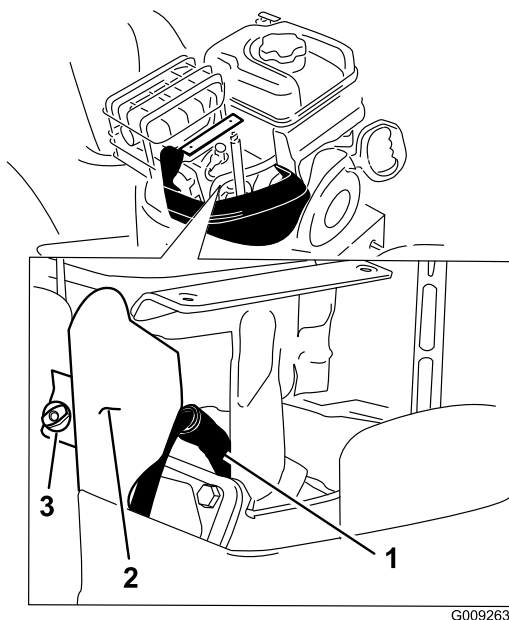

Figure 53
4. Remove the bracket thumb screw and the bracket (Figure 53).
5. Clean around the base of the spark plug (Figure 53).